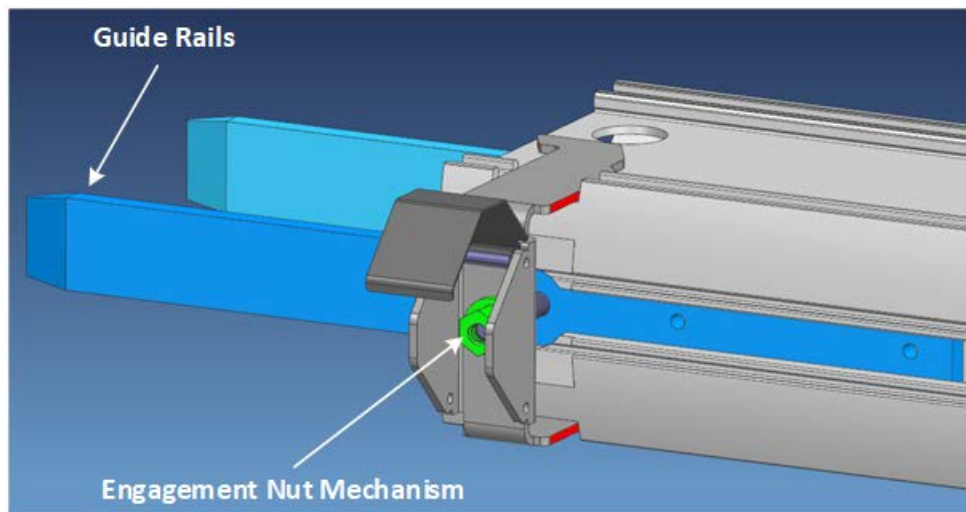
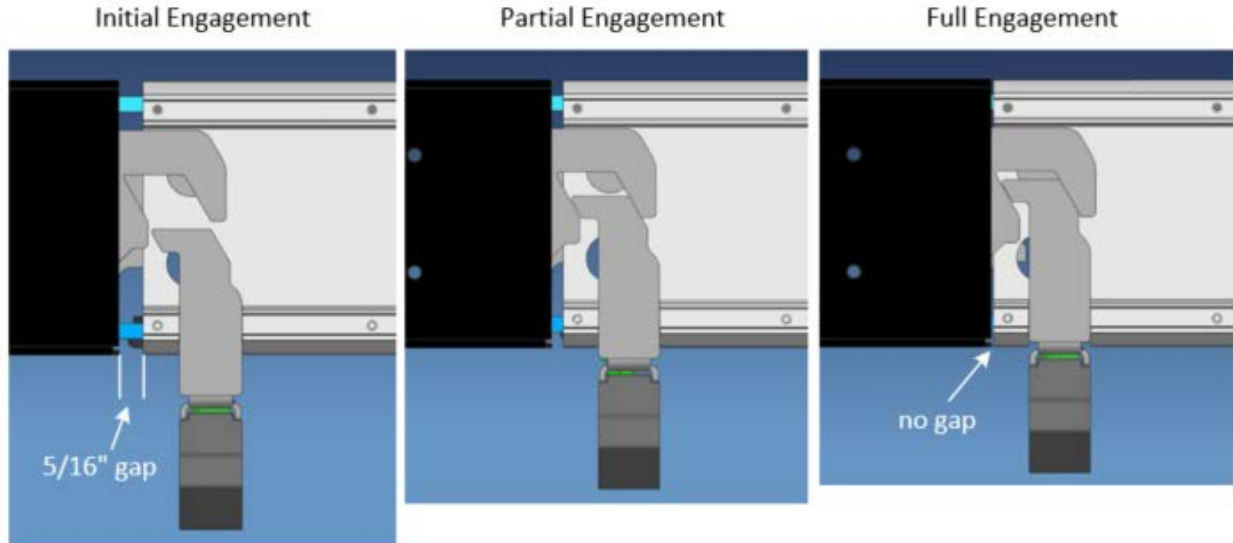

Figure 12 – Engagement nut in Initial Engagement position
Figure 14 – Top view of Initial, Partial, and Full Engagement positions
1. Loosen engagement nut (rotate counterclockwise) to the Initial Engagement position (Figure 14) to prepare for installation (Figure 12).
- Use an insulated 7/16" nut driver to engage the mechanism (rotate nut clockwise to tighten) and insert PDM-B to PFM. When the PDM module is pulled tight to the PFM with no gap, the PDM-B is fully engaged (Figure 14).
- Validate that engagement mechanism is in the initial engagement position (Figure 14). Mechanism may prevent insertion if left in full engagement position.